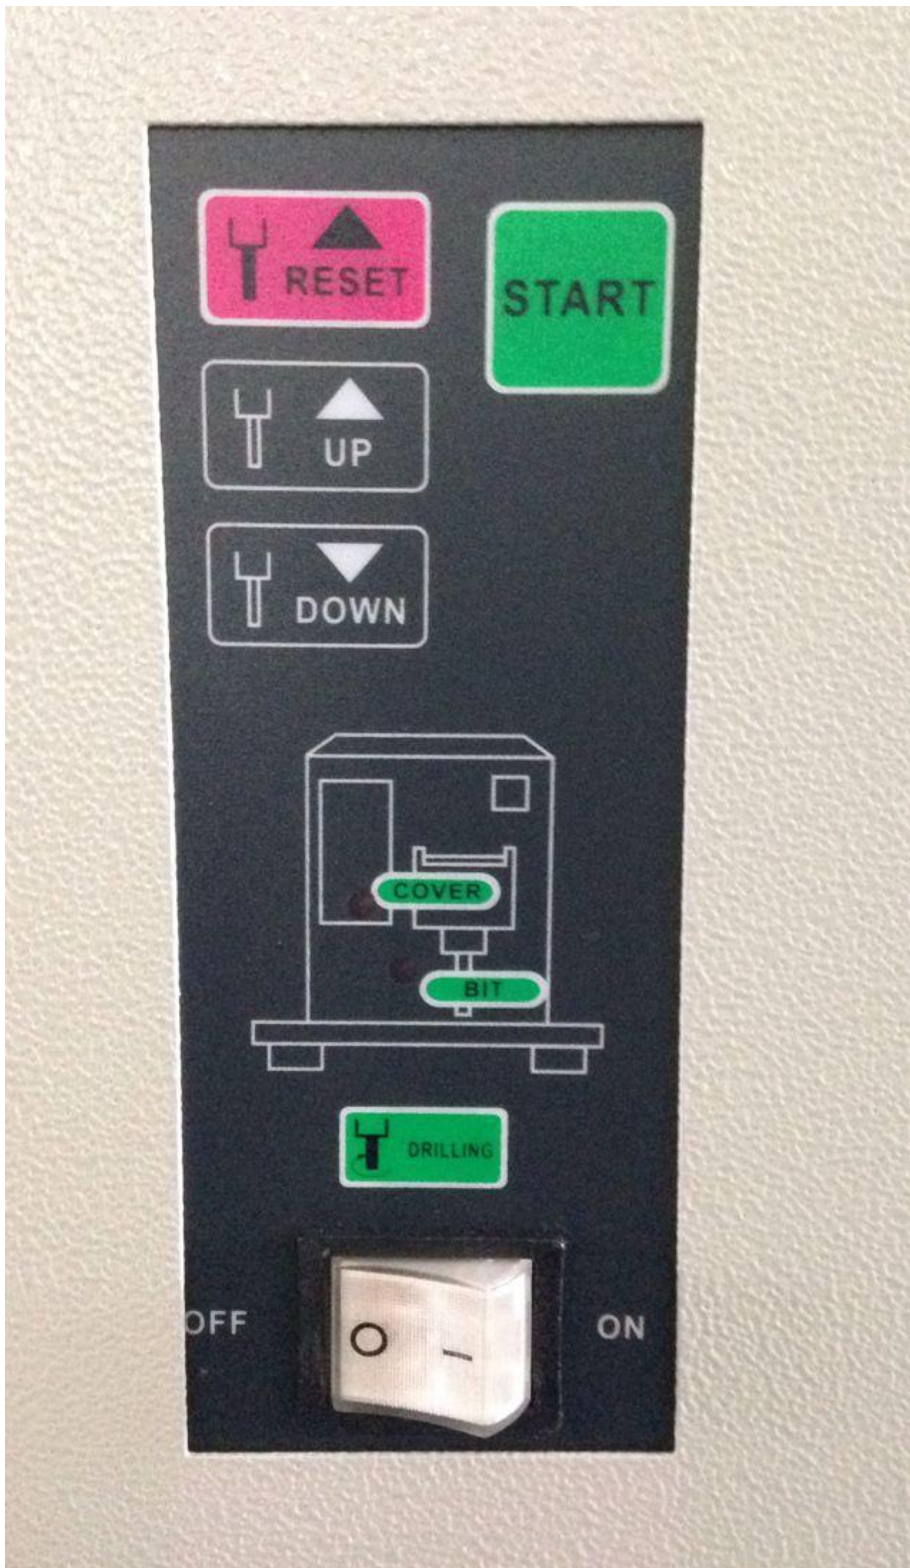

Fig 4
5. Console panel (shown in Fig 4)